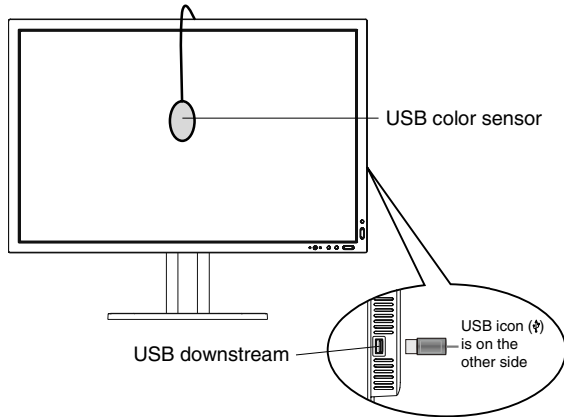
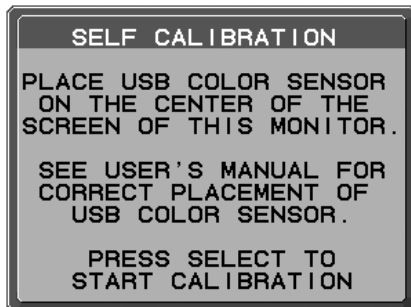

Figure S.1
Figure S.3
3. Plug-in the USB color sensor to the side (or bottom when Portrait orientation) USB downstream port (**Figure S.1**).
6. The procedure will ask for the USB color sensor to be placed on the center of the display panel (**Figure S.3**). Tilt the display panel approximately 5° backward and place the USB color sensor in the center of the display panel (**Figure S.1**).